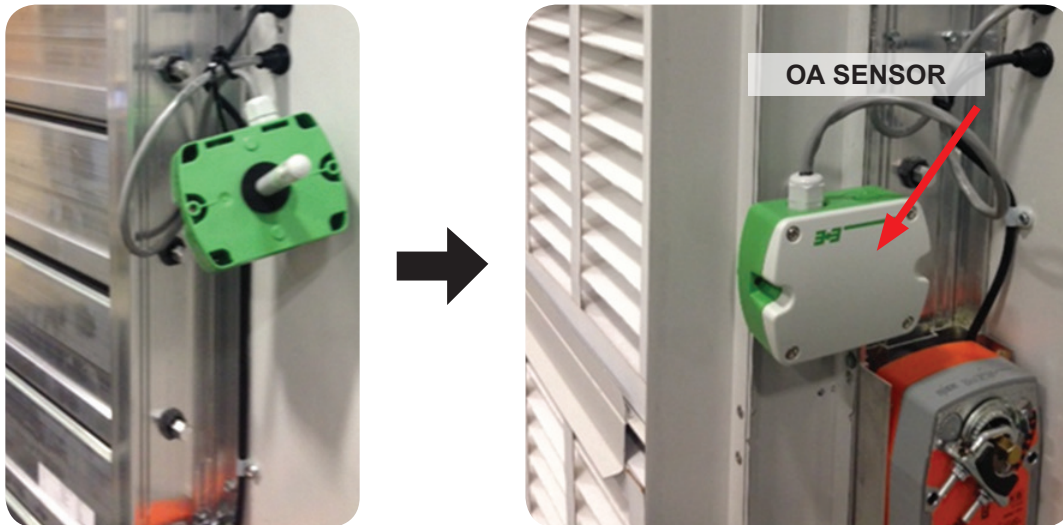

Figure 4. Filter Rack Installation
- Attach filter rack to the damper with provided self-tapping screws; position rack as shown in Figure 4.